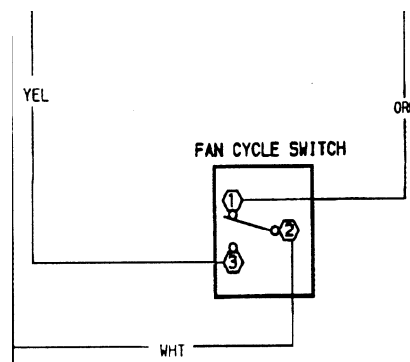

FIGURE 52 — FAN CYCLE SWITCH (3 Terminal)
- Label and remove the leads connected to fan cycle switch. See Figure 52.